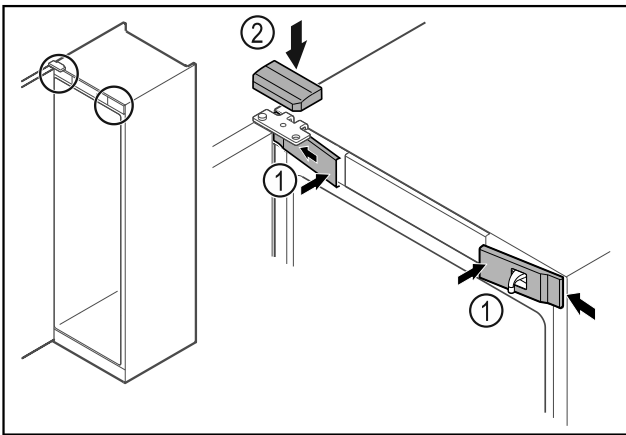

Fig. 70
- ▶ Hook in the front covers Fig. 70 (1) on the side and snap them into place.
- ▶ Snap on the top cover Fig. 70 (2) from above.